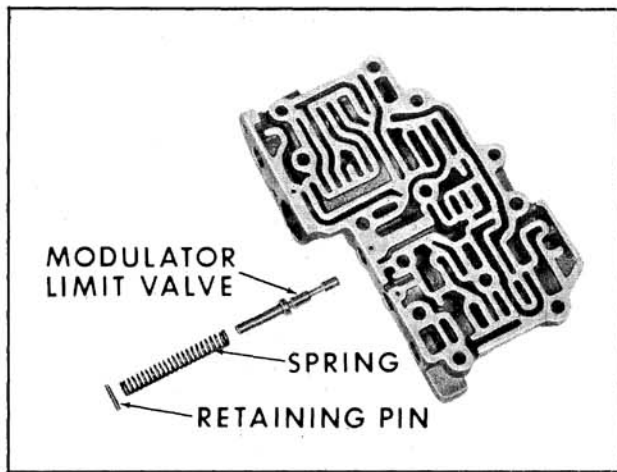

Fig. 6-397 Modulator Limit Valve
3. Depress modulator limit spring, turn valve body over and retaining pin will fall free. Remove spring and valve from body. (Fig. 6-397)
2. Install modulator limit valve and spring into bore of valve body. Compress spring and install retaining pin. (Fig. 6-397)